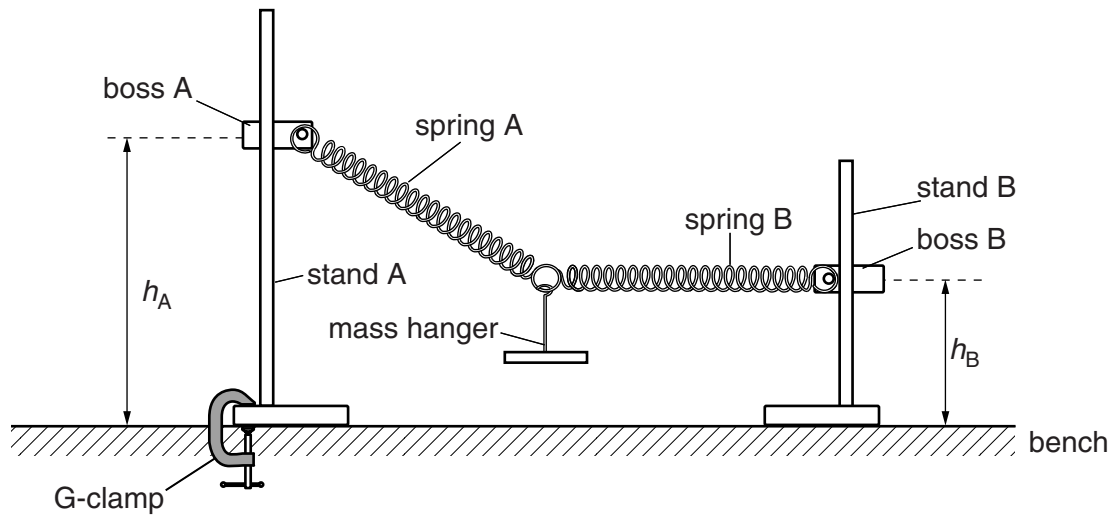

Fig. 1.2
3. Each boss and stand will support one rod, as shown in Fig. 1.2. The Supervisor should set the height h_B , shown in Fig. 1.2, so that h_B is 5 cm greater than the length of the mass hanger. Candidates will be told not to adjust this height. The height h_A should be set so that it is 20 cm greater than the length of the mass hanger.
The **candidate** will set up the apparatus as shown in Fig. 1.2. Candidates will need to adjust the height h_A and the separation of the stands by moving stand B along the bench.